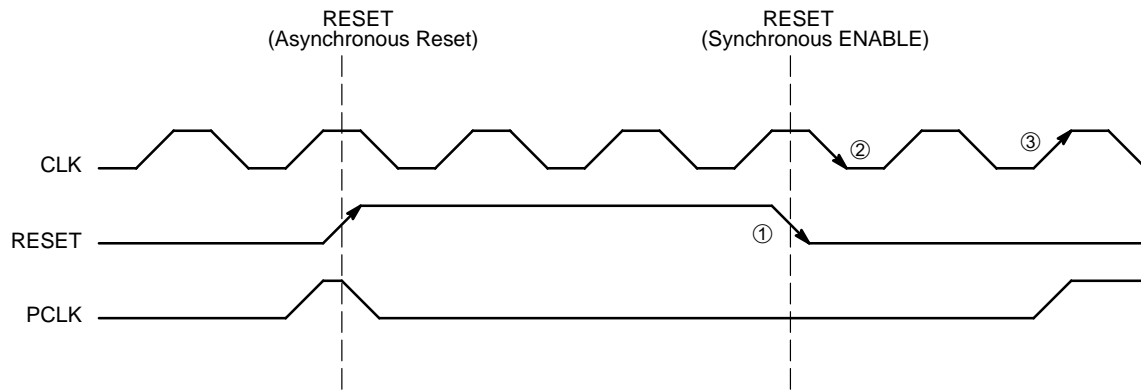

Figure 6. Reset Timing Diagram
Upon power-up, the internal flip-flops will attain a random state. To synchronize multiple flip-flops in the device, the Reset (pin 1) must be asserted. The reset pin will disable the internal clock signal irrespective of the CKEN state (CKEN disables the internal clock circuitry). The device will grab the first stream of data after the falling edge of RESET①, followed by the falling edge of CLK②, on second rising edge of CLK③ in either CKSEL modes. (See Figure 6)